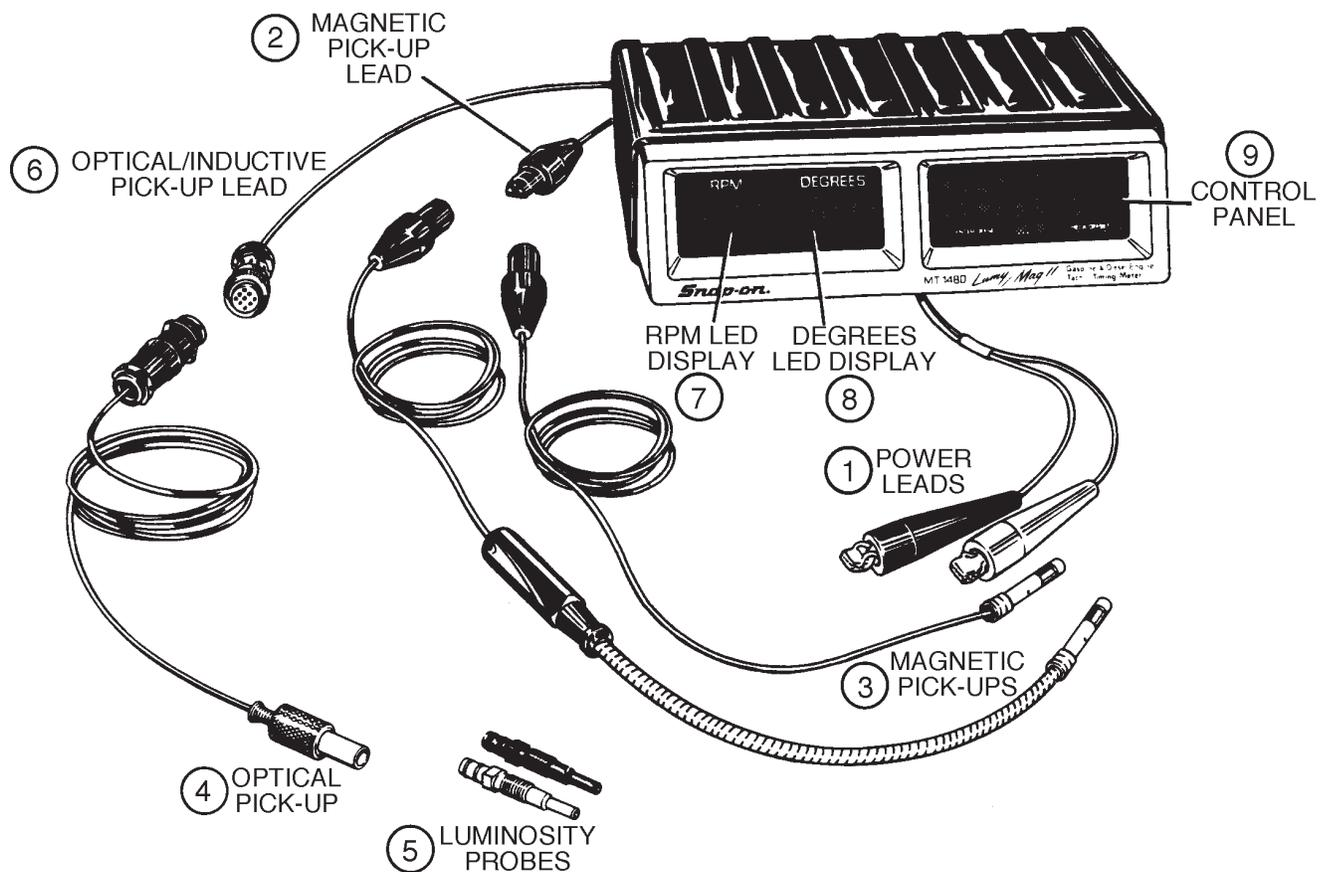

Figure 4-8. Snap-on Lummy/Mag II.
E. ENGINE INJECTION PUMP TIMING PROCEDURES USING SNAP-ON LUMY/MAG II TIMING METER 12-VOLT DC (Figure 4-8)